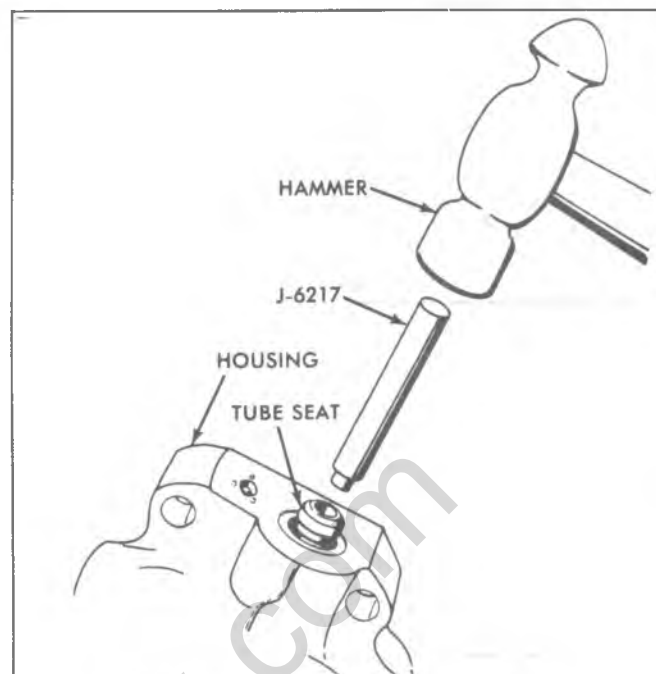

Fig. 5-55—Installing Tube Seat Using J-6217
6. Install tube seat with Tool J-6217 as shown in Figure 5-55.